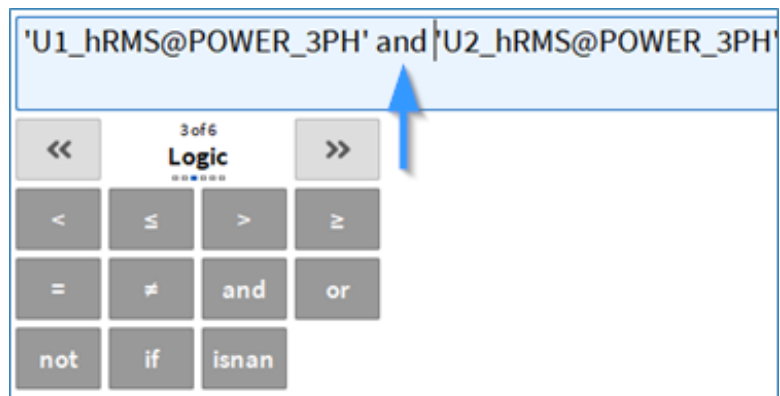

Fig. 7.77: Logic operators in combination with array channels
- Logic operators (see Fig. 7.77)